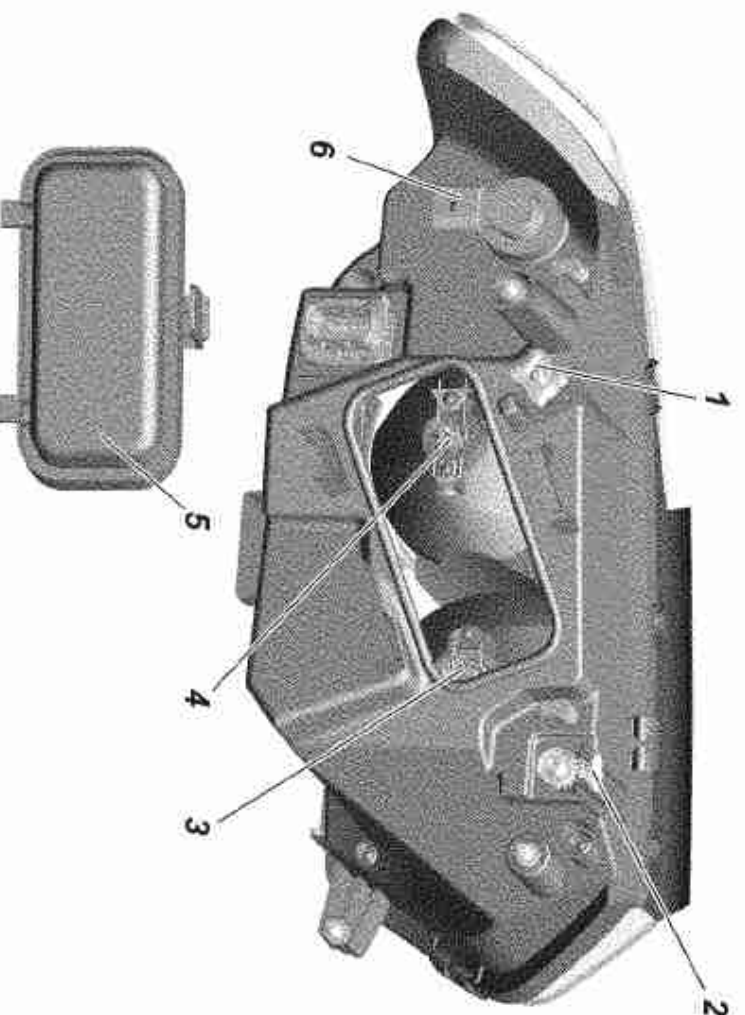

Fig. 9.33. Headlamp:
3. Switch on low beam and, closing each headlight in turn, rotate adjusting screw 1 (Fig. 9.33) and adjusting gear 2, so that cutoff line from E and E' points on the left coincides with line 1 and on the right coincides with lines 2 and 2' for the left and right headlights respectively.
Headlight replacement. To change T/signal lamps remove the connector from socket 6 (Fig. 9.33), turn the socket clockwise (for the right headlight) or counter-clockwise (for the left headlight) and remove the socket with the bulb.